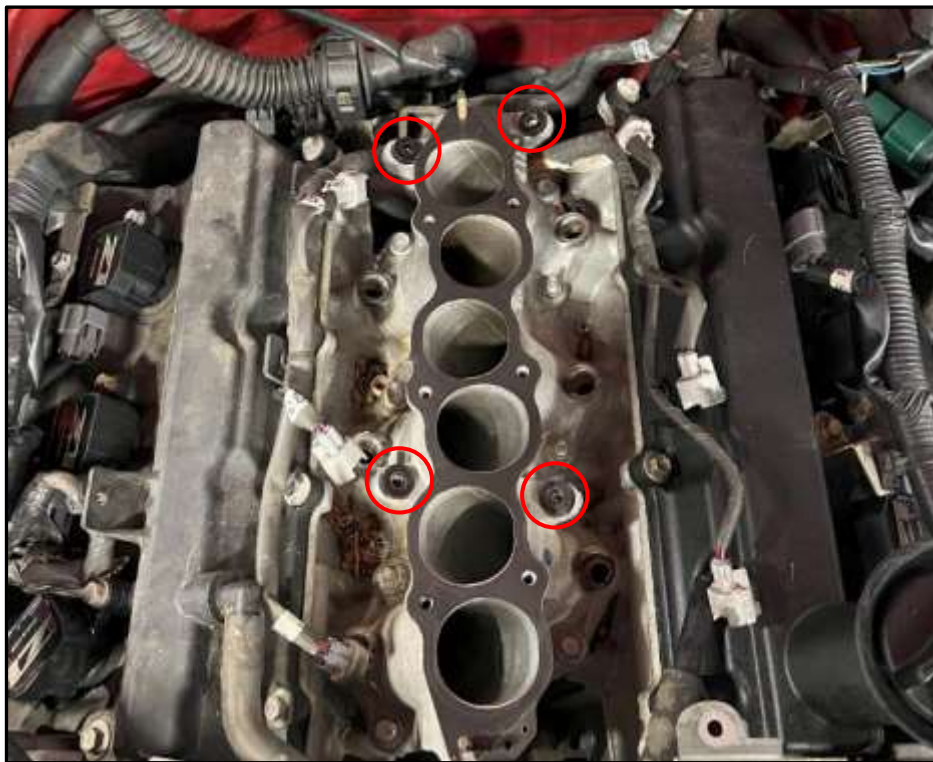

Figure 29
22. With the Fuel Rail and old Injectors removed, inspect the Lower Intake Plenum where the Fuel Injectors sit. Remove the (4) four thick washers that were underneath (circled below) the rails and any O-rings that may be present and clean the area of any debris, oil, or fuel. *Figure 29.*